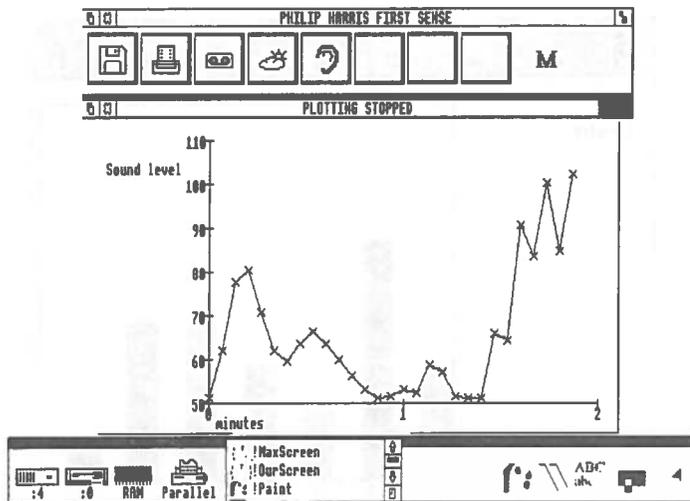
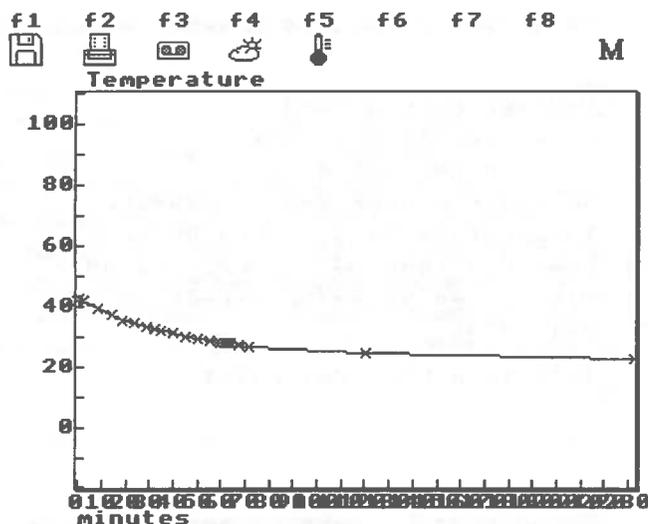

Fig. 6 - Real-time graphical display - Arc version
Fig. 7 - Timing for more than an hour!
**Real-time:-** A real-time graphical display (Fig.6) is obtained by selecting the *Time graph* option from any sensor menu. This option is only available when no previously recorded data is present. The fastest rate of automatic data capture, for times up to 30 s, is 1 reading/second and is only possible on one channel at a time. When logging data automatically, the x-axis time scale is changed as each time threshold is passed (see *Timing section* above). Therefore if you happen to stop the logging at 31 seconds you only have 16 readings displayed whereas at 30 seconds you would have had 30. Beware logging for anything more than an hour or the program tries to cram too much into the x-axis (see Fig.7). The time scale would be improved if rationalised into hours. Conversely, if you log for less than 10 seconds and re-display the graph via the *Recording Menu* there will be no time scale on the x-axis!